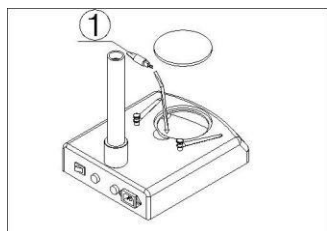

Fig.15
- 4) Recover the stage plate. (Fig.15)